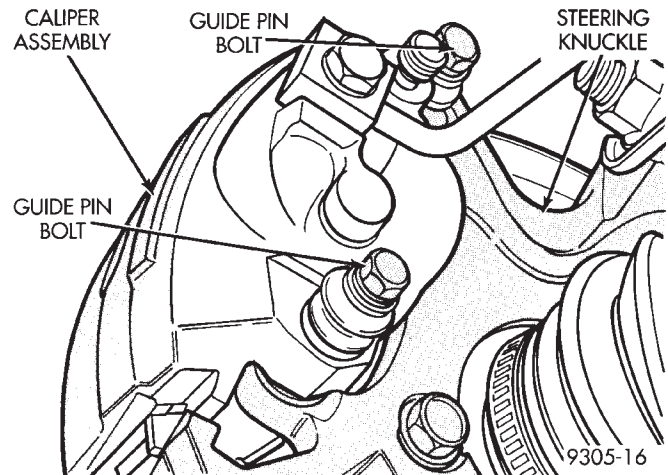

Fig. 50 Removing Caliper Assembly Guide Pin Bolts
(1) Raise vehicle on jackstands or centered on a hoist. See Hoisting in the Lubrication and Maintenance section of this manual.
(2) Remove front wheel and tire assemblies from vehicle.
(3) Remove the 2 caliper assembly to steering knuckle guide pin bolts (Fig. 50).